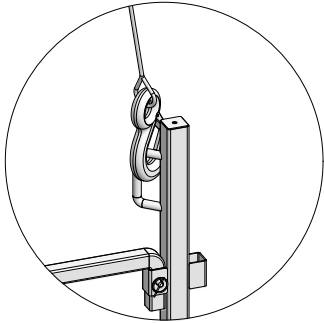

Fig. 50.3
A maximum of three stacking racks may be used to stack panels one of top of the other for storage purposes (Fig. 50.3).
- A 4-rope crane sling must always be used when transporting using a crane. The crane sling must be attached to the crane eyes (Fig. 50.3).